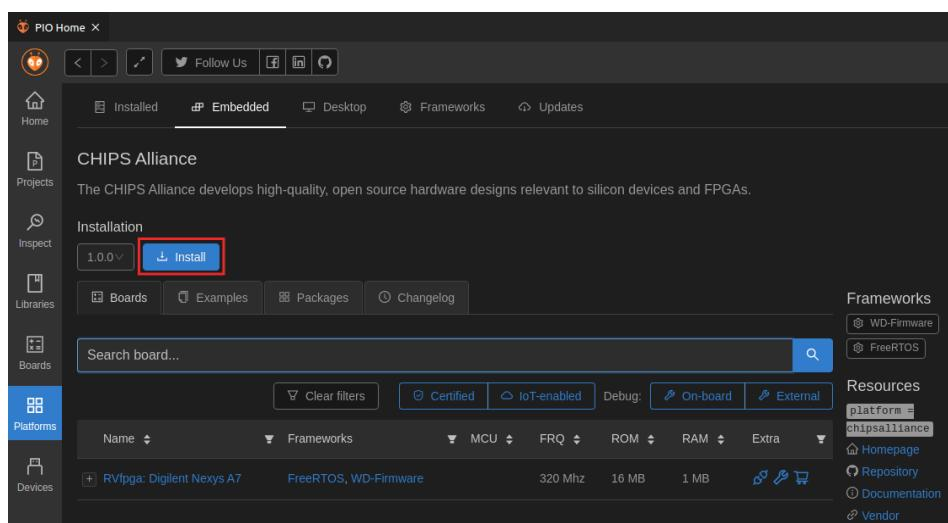

Figure 101. Installing the CHIPS Alliance Platform
2. After clicking on the **CHIPS Alliance** button, you will see the details of the Chips Alliance platform (as in Figure 101). Install it by clicking on the **Install** button (Figure 101).